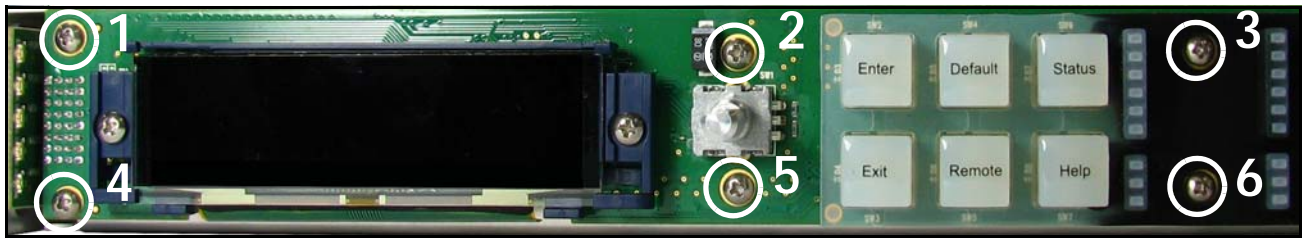

Figure C-9 Removal of the Mounting Screws
- 3 Remove the six circuit board mounting screws (Figure C-9).